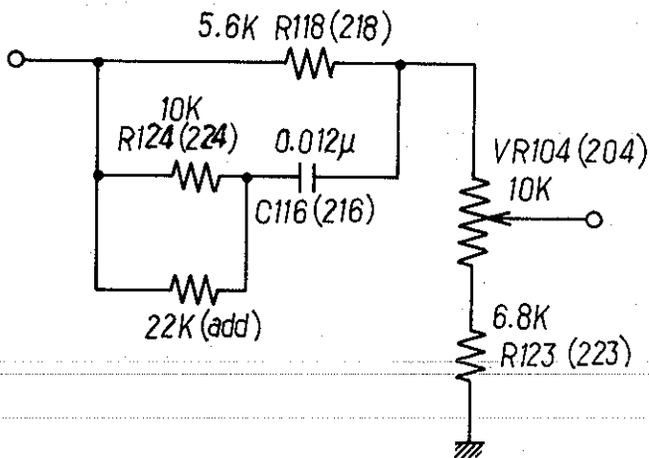

Fig.4 Record Equalizer for CrO2
- j. If waving exceeds 3dB, apply 22K ohms in parallel with R117,217 of the main P.C.B. and repeat the items g thorough i. Refer to Fig. 4.